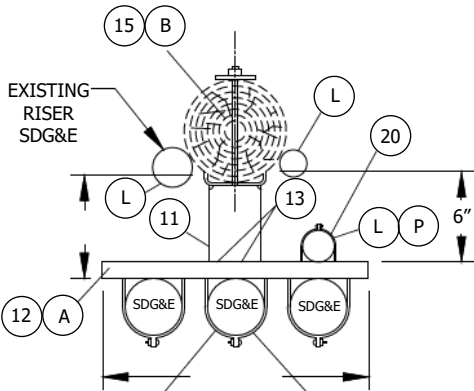

FIGURE 4
- (J) USE FIGURE 4 WHEN ADDING A RISER(S) TO AN EXISTING SDG&E RISER POLE. AN EXISTING SINGLE SDG&E RISER WOULD REMAIN ON THE POLE UNLESS IT IS CREATING A G.O. 95 INFRACTION. IF AN INFRACTION EXISTS, MOVE THE EXISTING RISER TO THE LADDER ARM BRACKET.